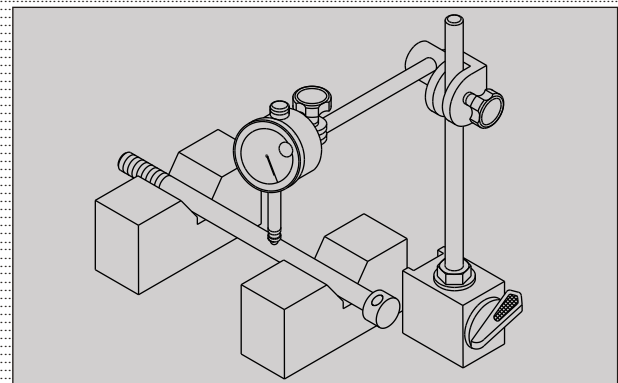

Fig. 6.5
- Using the special tools, check axle front for run out (straightness) and replace the axle with a new one if run out exceeds the limit. (Fig.6.5)